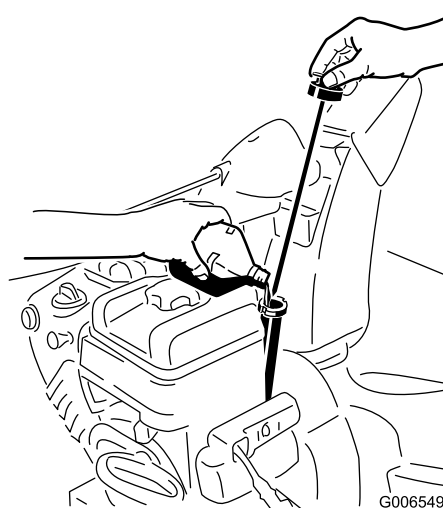

Figure 18
1. Remove the dipstick and **slowly** pour oil into the oil fill tube to raise the oil level to the Full mark on the dipstick. **Do not overfill** (Figure 18). Refer to Checking the Engine Oil Level in Maintenance.